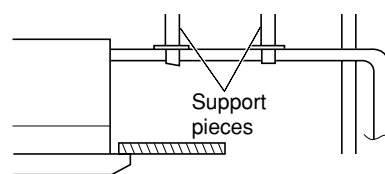

Fig. 3-58
- Do not apply force to the piping on the unit side when connecting the drain pipe. The pipe should not be allowed to hang unsupported from its connection to the unit. Fasten the pipe to a wall, frame, or other support as close to the unit as possible. (Fig. 3-58)